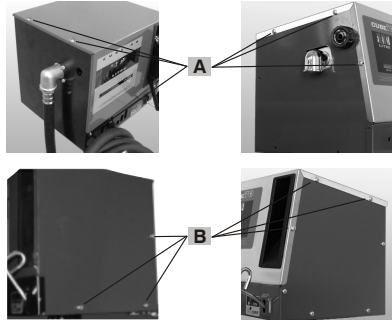

Fig. 4.1 - Opening the CUBE
- Screw off and remove the three cross-head screws on the left side of the CUBE (Fig. 4.1, screws A).
- Screw off and remove the three cross-head screws on the right side of the CUBE (Fig. 4.1, screws B).